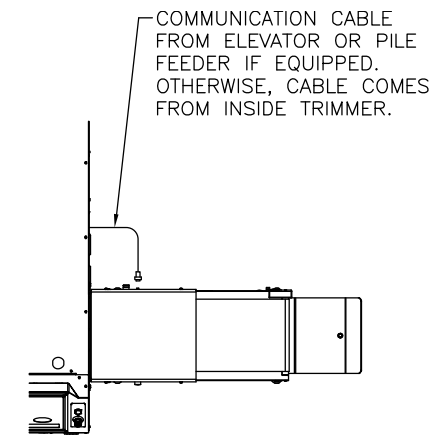

Figure 2-38. Comm. Cable Connections
5. Connect the communication cable as shown in Figure 2-38.